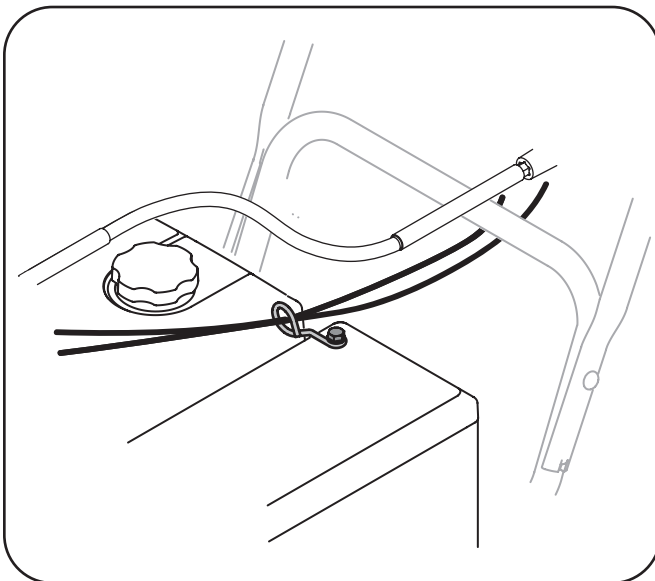

Figure 3-9
6. Check that the cables are properly routed through the cable guide on top of the engine. See Figure 3-9.
7. Remove the cotter pin and washer from the ferrule on the end of the shift rod. See Figure 3-9 inset.